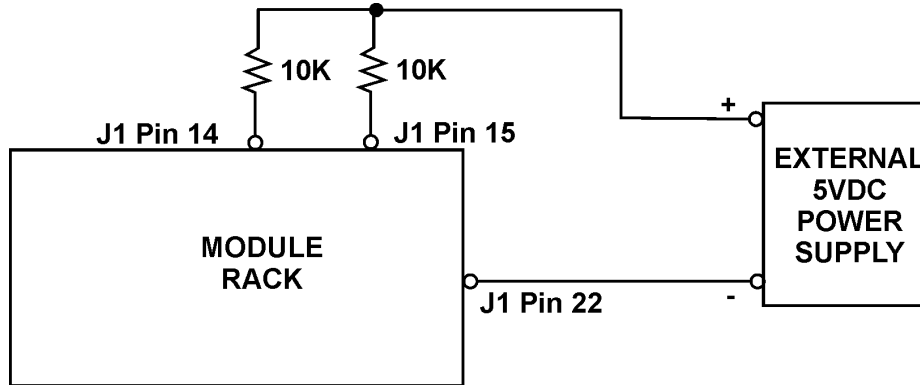

Figure 10. Checking AC Good and DC Good Outputs
- 20.8 Checking the AC Good and DC Good Outputs.** Connect the -lead of an external 5V power supply to Signal Common (J1 Pin 22). Connect one end of a 10K resistor to the +lead of the 5V supply and the other end to the AC Good output (J1 Pin 14). Connect one end of another 10K resistor to the +lead of the 5V supply and the other end to the DC Good output (J1 Pin 15). See Figure 10. Reconnect the Remote Enable wire. Measure the output voltage at both J1 Pins 14 and 15 with respect to Signal Common (Pin 22) with a digital voltmeter. Both voltages should be less than 0.5VDC, indicating a TTL LO.